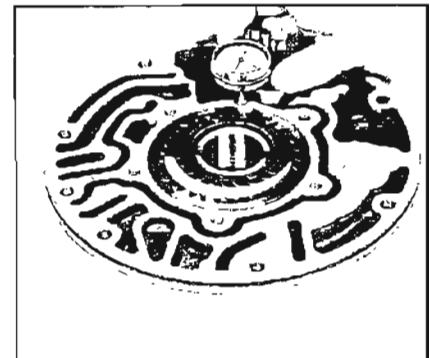

Figure 5-201
d. Install pump on converter hub. With dial indicator set check end clearance. The clearance allowed is .0005/.0015. See Figure 5-201.